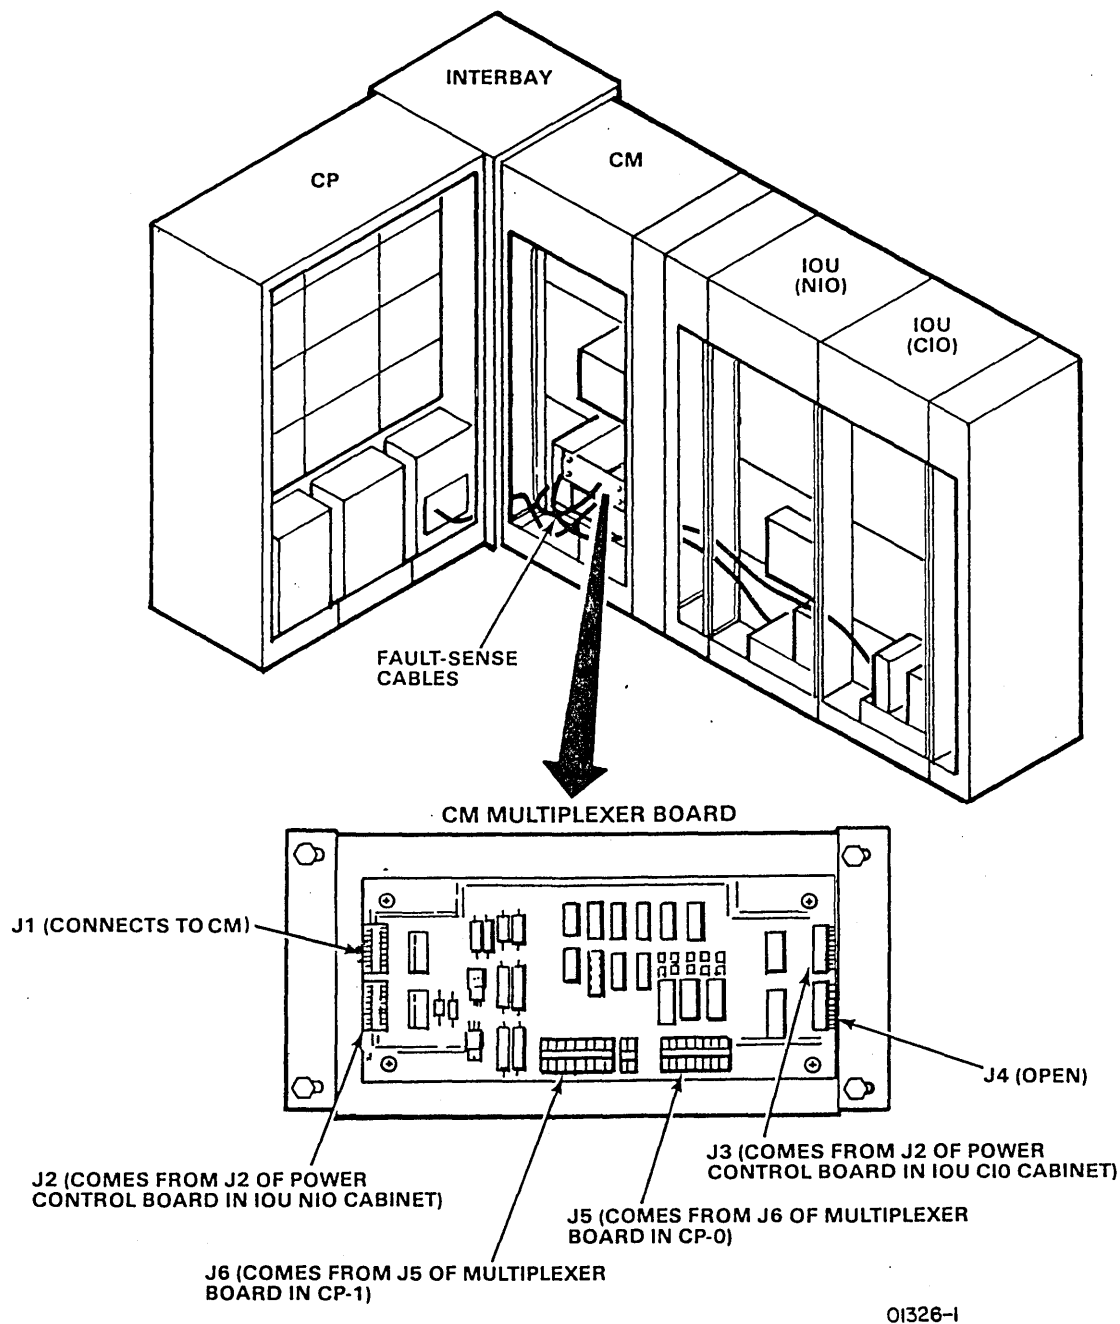

Figure 4-10. Fault-Sense Cable Connections to CM Multiplexer Board
- ___ 4. Route cable to CM multiplexer board, and connect it to J5 (figure 4-10). Cable has a keyed connector to ensure correct connection.